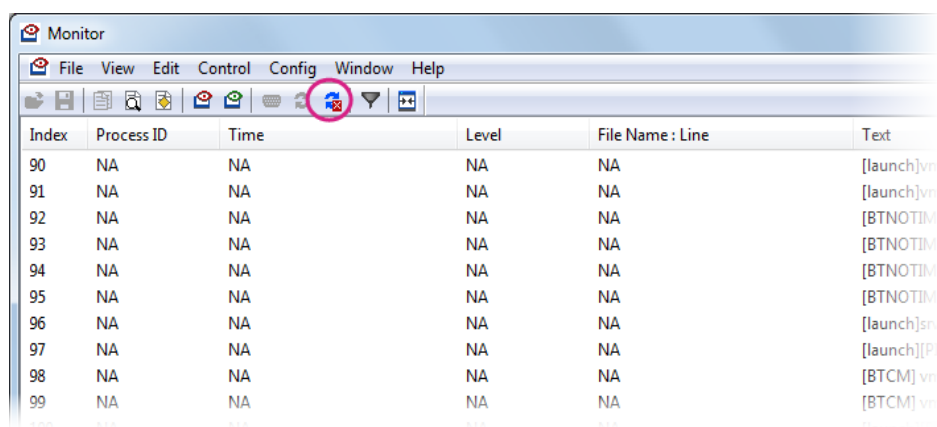

Figure 38 Disconnect toolbutton
- 7) To finish, click the Disconnect toolbutton and close the window, as shown in Figure 38. Please note that the COM port remains in use until the Monitor tool is disconnected.